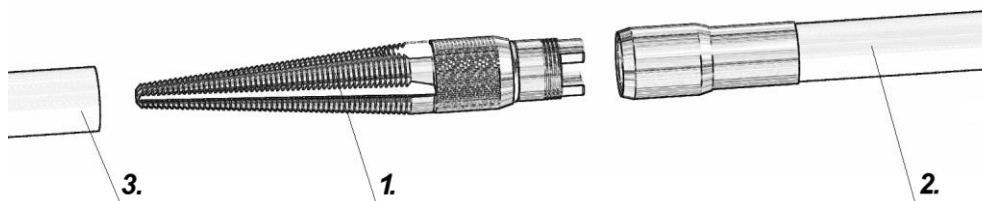

Figure 8.8.1
For installing PE, PVC pipes (manually) the Insert nipple (1) could be used (Figure 8.8.1.). This method can be used for pipes of diameter $\varnothing 25 \div \varnothing 55$ mm.